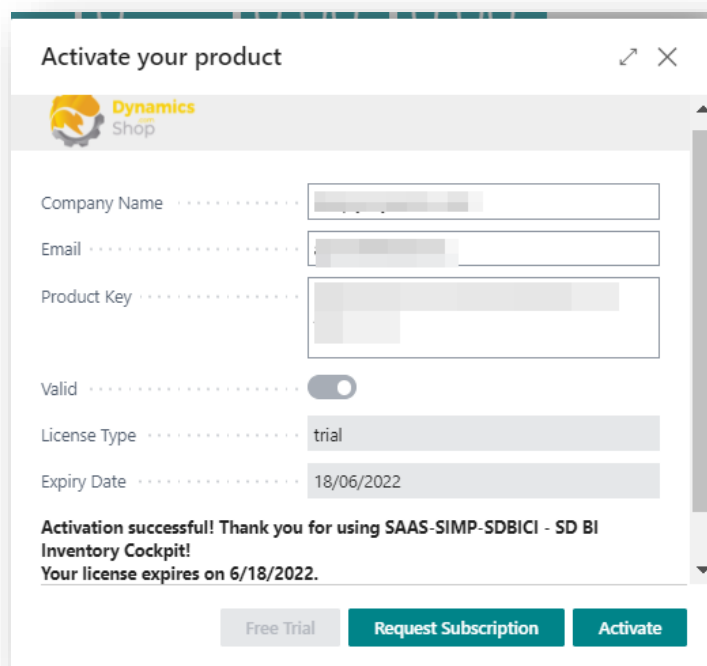

Figure 4-15
5. The **Activate your product** page will update to display a message that the activation was successful. The expiry date will depend on the date that you activated your free trial (Figure 4-15).